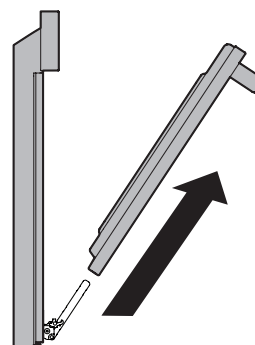

Figure 30: Remove Door
4. Pull the bottom of the door toward you while rotating the top of the door toward the appliance to completely disengage the hinge levers (Figure 30).
1. Firmly grasp both sides of oven door along the door sides. Do not use the oven door handle (Figure 30).